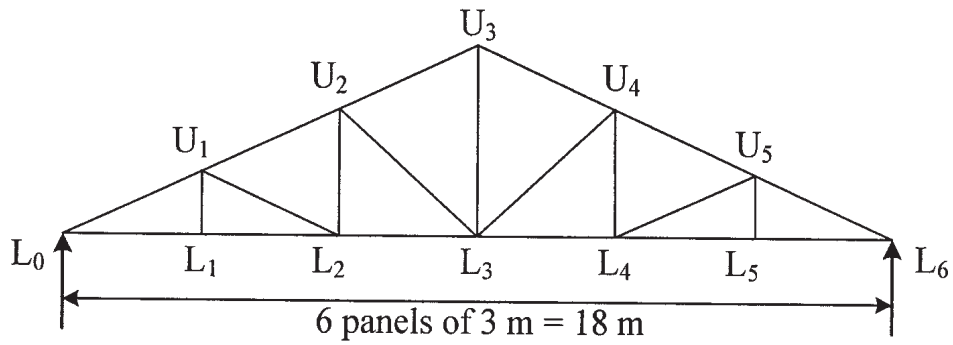

Fig. 9
- Q9)** A truss shown in Fig.9 is used for an industrial building covered with AC sheet of self weight 150 N/m² located at Mumbai. Calculate the panel point dead, live and wind load. Also determine design forces in the members L_0L_1 , U_1L_1 and L_0U_1 . Assume spacing of trusses 4 m, $k_1 = 1$, $k_2 = 1$, $k_3 = 1$, $(C_{pe} - C_{pi}) = \pm 1.2$. Draw the design sketches. [18]